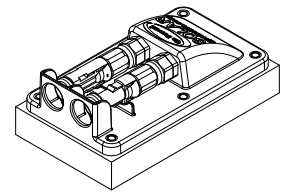

FIGURE 3-A: CEP
5. Identify on your RV if you have a **Cable Entry Plate (CEP)** see **Fig 3-A** pre-installed by the RV Manufacturer. The Cable Entry Plate makes the Solar Panel to Solar Charge Controller installation simpler. (After market purchase of GP-CEP available)